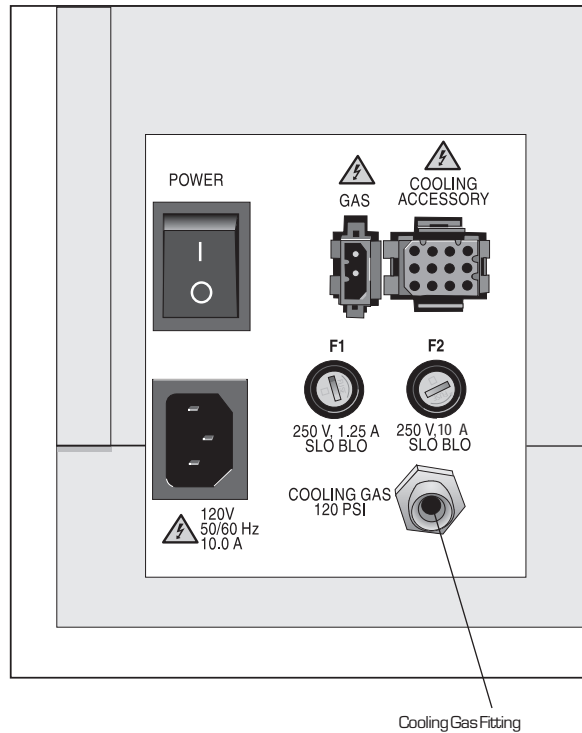

Figure 2.10
1. Locate the COOLING GAS fitting, a 1/4-inch compression fitting on the left side of the TGA cabinet back, marked with a 120 psig maximum warning label (Figure 2.10).